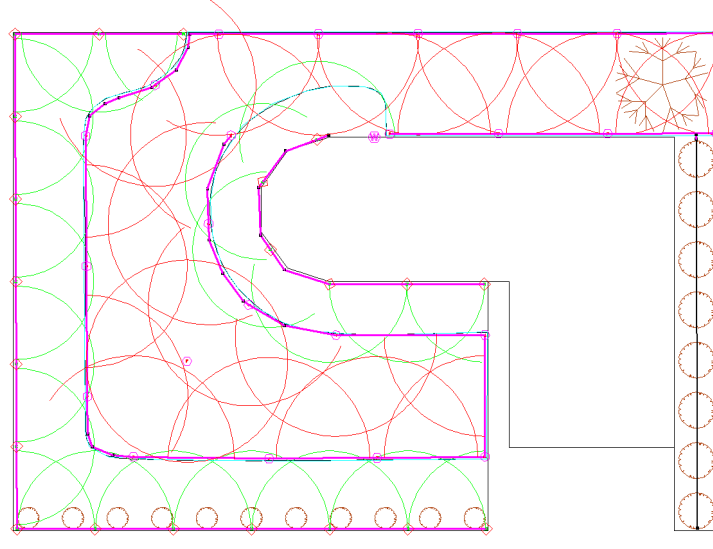

Figure 4-73
37. First we will enter a water supply to signify the tap that will supply the sprinklers. Select **Mainline|Water Supply** and place the water supply on the house wall boundary close to the end of the conservatory garden (see Figure 4-73). In the **Water Supply** dialog enter the "Name" as **Mains Supply 1**, the "Design Head" of **50psi (35m)** and "Maximum Head" as **60psi (42m)**, the "Design Flow" and "Maximum Flow" as **7gpm (1.6m3h)**. Though the tap will be above ground level we have not worried about that in this example.